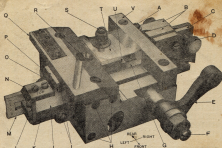

FIGURE 1.
4. Mold Screws. If the MOLD has the two diagonal holes in the BASE PLATE (one shown above letter H, Fig. 1) use the extra long MOLD SCREW a50E1, furnished with this MOLD, in the right-hand hole near the water holes and use two of the standard MOLD SCREWS a50E in the other two holes. For MOLDS not having these diagonal holes use the three standard MOLD SCREWS a50E and omit this extra long SCREW. Never use this extra long SCREW in any TYPE MOLDS as it would bottom in the MOLD and force the BLOCKS out of position.
5. Lubrication. Use "Rule Mold Oil" (order by name). In case of emergency mutton tallow or castor oil (lubricating or medicinal) may be used but we do not recommend their continued use. Standard MONOVYPE oil such as is used on other MOLDS and CASTING MACHINE parts will not work on this MOLD. Keep the OIL HOLE (R) in the left TIE BAR (Q) over the MOLD BLADE (M) constantly filled with one of these lubricants; also put a little on the end of the OPERATING BAR where it joins the MOLD BLADE (M) and on the end of the CLAMPING SCREW (F) where it
28. Pull out the MOLD BLADE (M). With the MOLD standing on its front side, with the left end toward you, put in the VENT PUSHER with the sharp edge up and the lug on the end toward you.
30. Put on the upper MOLD-BLADE SHOE (N) with its two SCREWS, and also the MOLD-BLADE STOP (L).
31. Put on the two TIE BARS (Q and V) and bring them toward each other so that the SHIELD (G) will just slide easily into place between them.
32. Put on the desired MATRIX (U); MATRIX CLAMP (T); MATRIX-CLAMP SCREW (S); SHIELD (G).
33. FRICTION BLOCK: This does not need to be taken off when cleaning the MOLD, but if required it can be taken apart and reassembled as follows: Remove the two SCREWS holding the TRIMMER, shown just to the left of SCREW (D) in Fig. 1, and take off the TRIMMER and its PACKING PLATE. Hold the CLAMP (C) to the rear and remove the SCREW (D) with its WASHER; then remove the CLAMP (C) and its SPRING. Remove the two SCREWS (A) and take off the FRICTION BLOCK (B). To replace the FRICTION BLOCK proceed as follows: Insert a piece of lead or rule (cast by this MOLD) into the opening from which it was ejected and push it in until it touches the end of the MOLD BLADE, which can be told by seeing that moving the MOLD BLADE moves the lead or rule. Turn the LEVER (E) over until the lead or rule just inserted is clamped tightly. Press the FRICTION BLOCK (B) against its two bearing surfaces and slide it forward until it touches the lead or rule which is projecting from the MOLD; then insert and set up very tight its two SCREWS (A). Remove the piece of lead or rule from the MOLD, insert the SPRING behind the CLAMP (C), put this CLAMP (C) in position and hold it to the rear while inserting and tightening the RELEASE SCREW (D). Be sure the WASHER is on the SCREW (D). Put in position the TRIMMER with its Pack-
ING PLATE and insert and tighten its two SCREWS shown just to the left of the SCREW (D) in Fig. 1. Be sure the PACKING PLATE is inserted right side up so that its upper edge comes about flush with the top of the FRICTION BLOCK. Back off the RELEASE SCREW (D) until it is just free. On some of the earlier MOLDS there was a SHOE under the CLAMP (C), but the method of taking apart and putting together is the same as in the preceding. Some of the earlier MOLDS had an ADJUSTING SCREW in the rear of the FRICTION BLOCK instead of the RELEASE SCREW (D). This ADJUSTING SCREW is adjusted by screwing it in until the shoulder on it comes flush with the rear face of the FRICTION BLOCK (B).
34. Screw in to bearing the CLAMP SCREW (F), turning it by the LEVER (E). For directions for adjusting this CLAMP SCREW see ¶16. Be sure a piece of the product is left in the MOLD.